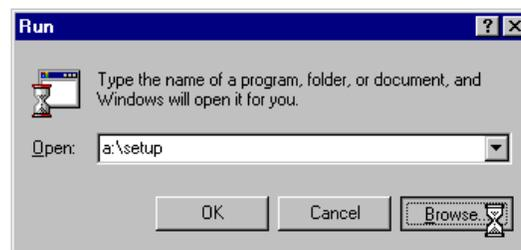

Figure F-1 Run Window - Click Browse
- 7) Choose the **Run** command from the Windows **Start** menu and click **Browse** (Figure F-1).